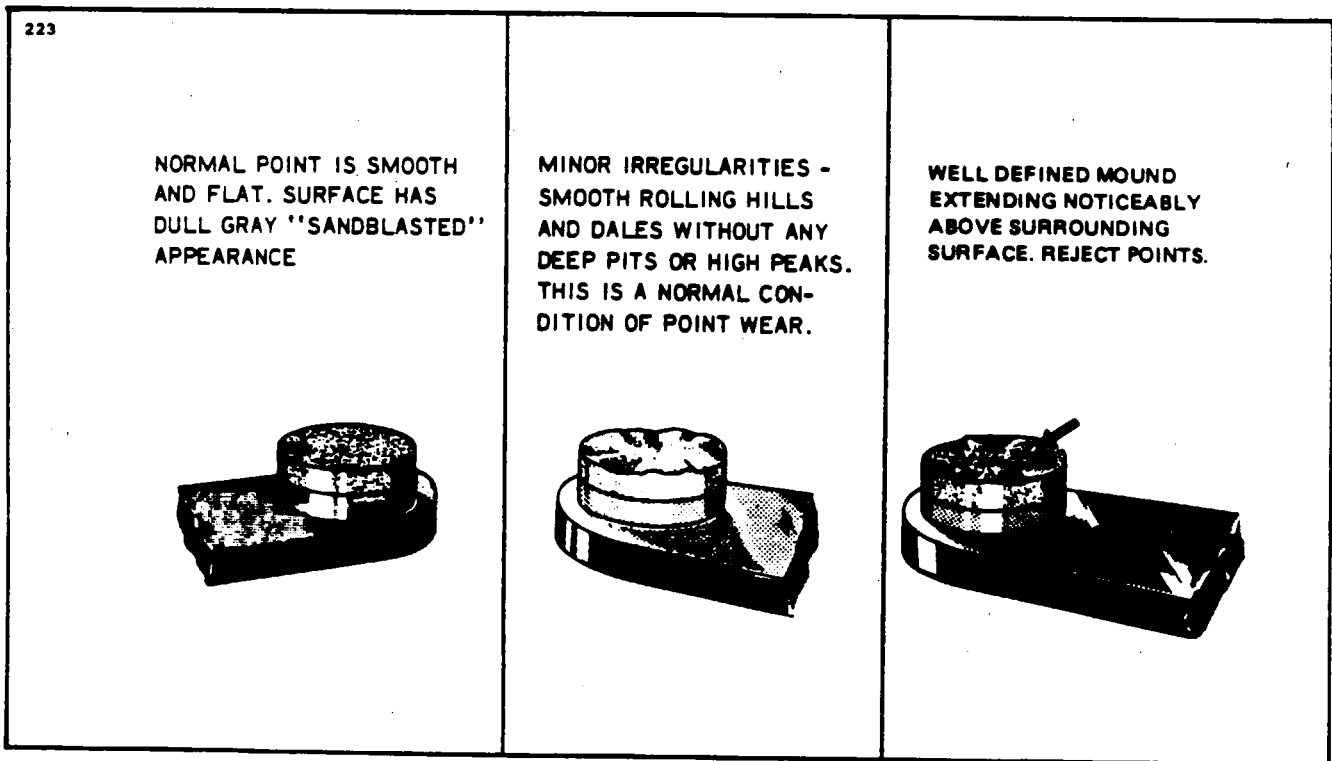

Figure 74-2. Contact Points
4. Check height of contact springs (0.422 maximum from top of block tower to spring). (Refer to Figure 74-2.)